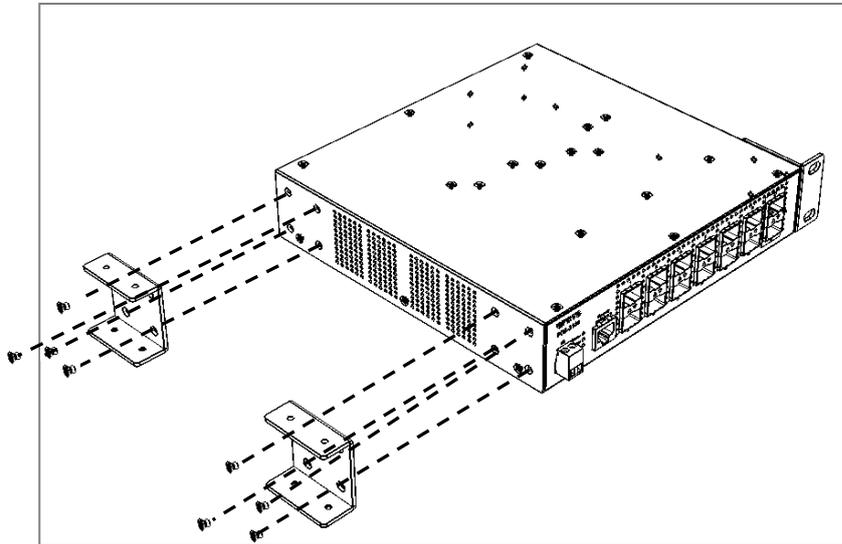

Figure 2-3. Install the L-shaped fixed pieces in the reverse direction for two-switch mounting
- 2.4. On the left side of the switch, attach one L-shaped fixed piece in the reverse direction by inserting the screws provided in the combine kit through this fixed piece and into the mounting holes in the switch. (See Figure 2-3)
- 2.5. Repeat the same manners as we had mentioned in Step 2.4 to install another L-shaped fixed piece on the same side of the switch. (See Figure 2-3)